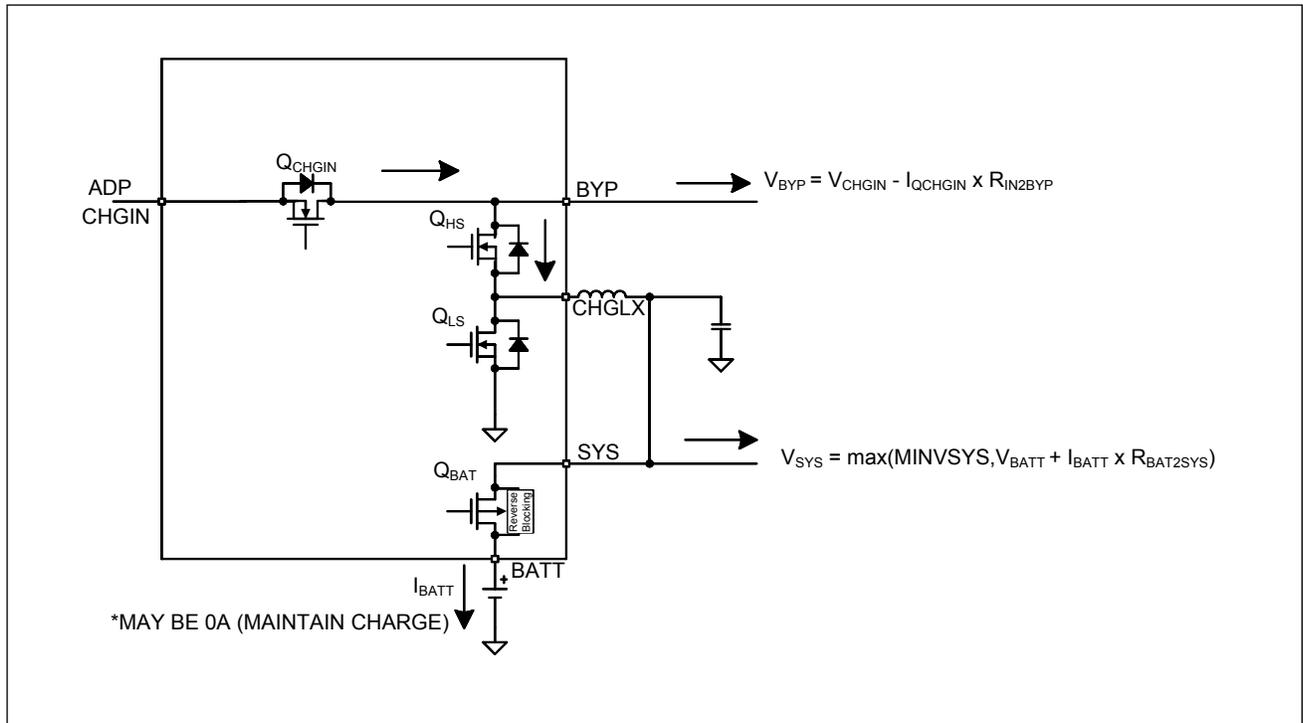

Figure 9. Charge-Buck
- 6. CHARGE-BUCK, MODE = 0x0D: Adapter is detected within the input voltage operating range ($Q_{CHGIN} = \text{on}$). Battery is connected in charge mode ($Q_{BAT} = \text{on}$) and charger is operating in buck mode, see Figure 9.